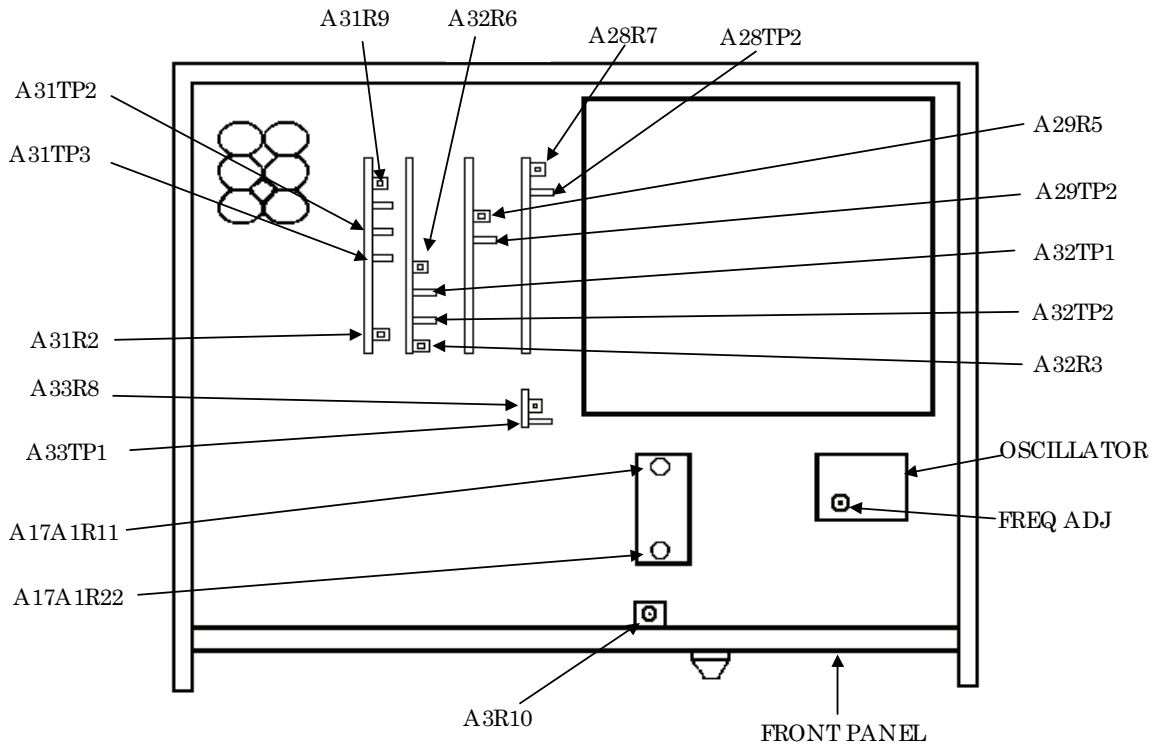

Figure 1. Test instrument - top view.
(6) Adjust FREQ ADJ (fig. 1) for a minimum indication on frequency difference meter  $10^{10}$  range. Record frequency difference meter indication.
(7) Allow at least 24 hours for TI time base oscillator to stabilize. Frequency difference meter indication will be within  $\pm 5$  parts in  $10^{10}$  of indication recorded in step (6) above. Record frequency difference meter indication.
(8) Adjust autotransformer output to 105 V ac. Allow 1 minute for oscillator to stabilize. Frequency difference meter indication will be within  $\pm 1$  part in  $10^{10}$  of indication recorded in step (7) above.
(9) Adjust autotransformer output to 125 V ac. Allow 1 minute for oscillator to stabilize. Frequency difference meter indication will be within  $\pm 1$  part in  $10^{10}$  of indication recorded in step (7) above.
(10) Adjust autotransformer output to 115 V ac.
(1) Connect signal generator output to **TI INPUT 1 M $\Omega$**  using a 50  $\Omega$  feedthrough termination.
(2) Set signal generator frequency to 100 MHz and level output to  $-13$  dBm.
(3) Press **RESOLUTION Hz** pushbutton to **100** and adjust A3R10 (fig. 1) until a stable count is displayed (R).
(1) Connect signal generator output to **TI INPUT 50Ω**.
(2) Set signal generator frequency to 100 MHz and level output to -25 dBm.
(3) Adjust A17A1R22 (fig. 1) fully ccw.
(4) Adjust A17A1R11 (fig. 1) for a stable indication on TI.
(5) Decrease signal generator level output and adjust A17A1R11 (fig. 1) until maximum sensitivity is obtained (R).
(6) Increase signal generator level output for a stable indication. Record signal generator level output indication.
(7) Adjust A17A1R22 (fig. 1) fully cw. TI will display all zeros.
(8) Increase signal generator level output by 1 dB from level recorded in (6) above and adjust A17A1R22 (fig. 1) ccw until TI display indicates 100 MHz (R).
(9) Verify that sensitivity is at least -32 dBm.